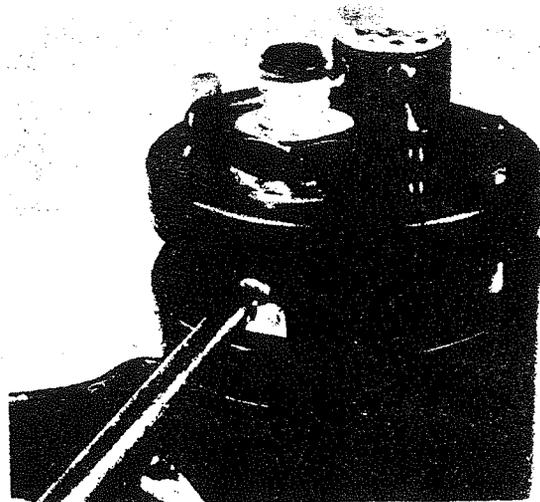

Figure 33
16.13 Pass the two terminals through the #1 and #4 terminal holes in the plastic end base and connect the loose terminal to the #3 contact stud with a #6 self tapping screw. See figure 33. Insure that the short contact stud is on the bracket side of switch.